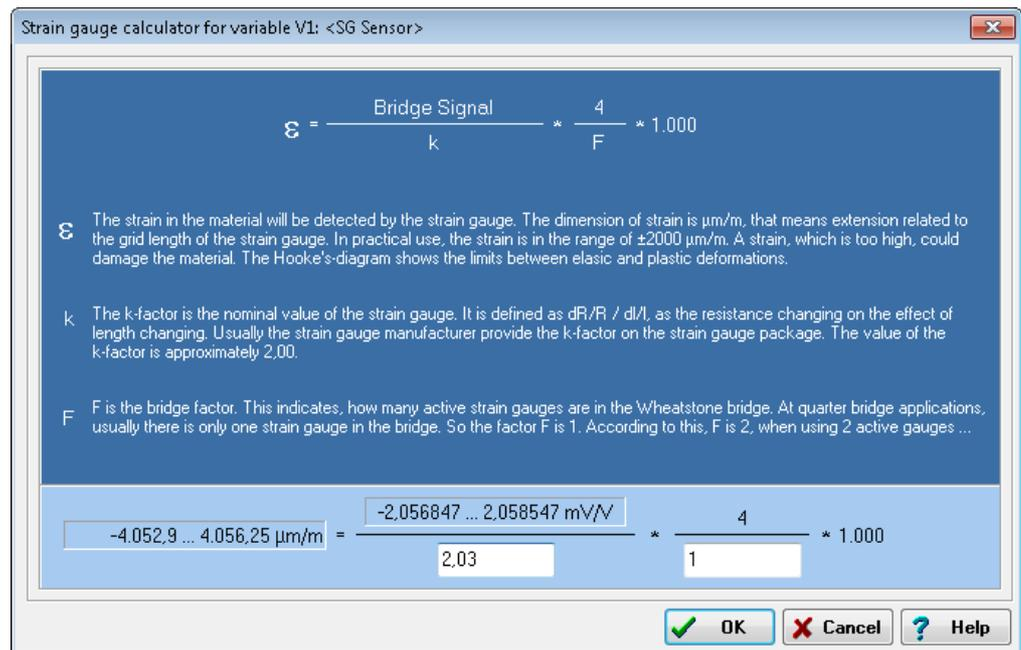

Fig. 6-7 Scaling dialog for strain gauges.
2. Enter the gauge factor of your strain gauge in the left field. The gauge factor is a measure of the sensitivity of the strain gauge and is stated on each strain-gauge pack. It is usually between 1.8 and 2.2. Fig. 6-7 shows scaling with $k = 2.03$.